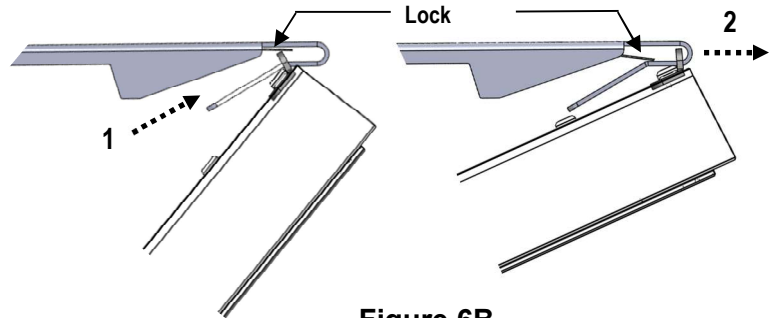

Figure 6B
- Slide the hinge brackets up to, and then past, the locking springs, see Figure 6B.